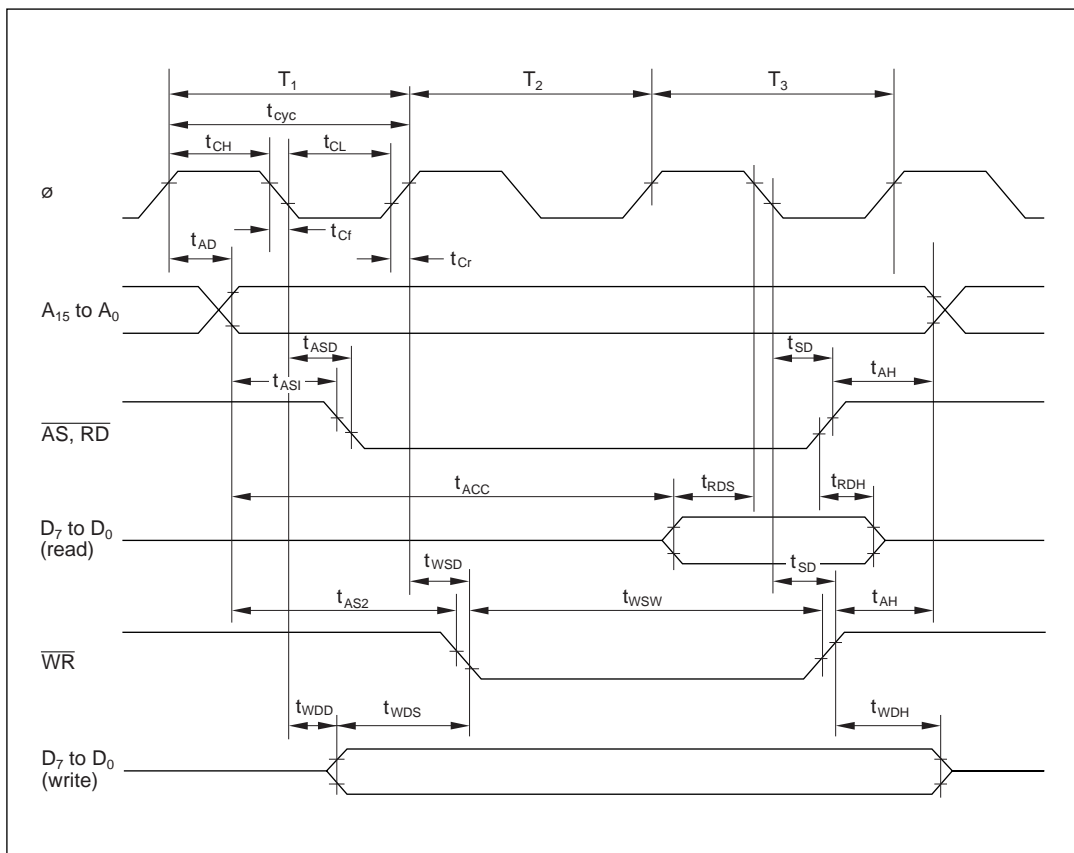

Figure 16-4 Basic Bus Cycle (without Wait States) in Expanded Modes
16.3.1 Bus Timing	Figures 16-4 to 16-5